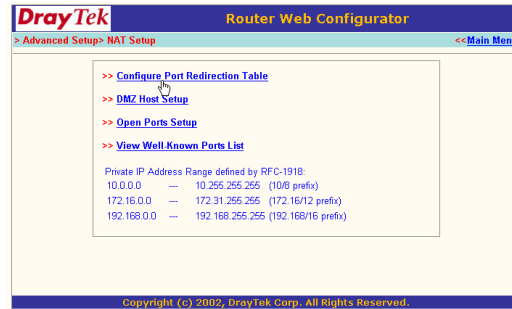

Figure 6: Port redirection
- Now select 'Port redirection' (figure 6)